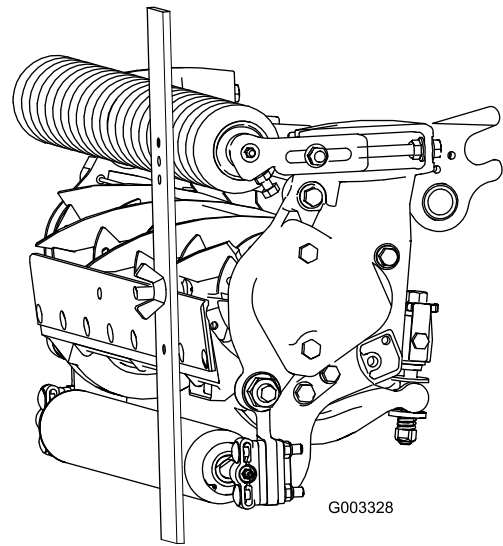

Figure 18
3. Hook the screw head on cutting edge of bedknife and rest rear end of bar on rear roller (Figure 18).
4. Rotate the adjusting screw until the front roller contacts the gauge bar (Figure 18). Adjust both ends of roller until entire roller is parallel to the bedknife.